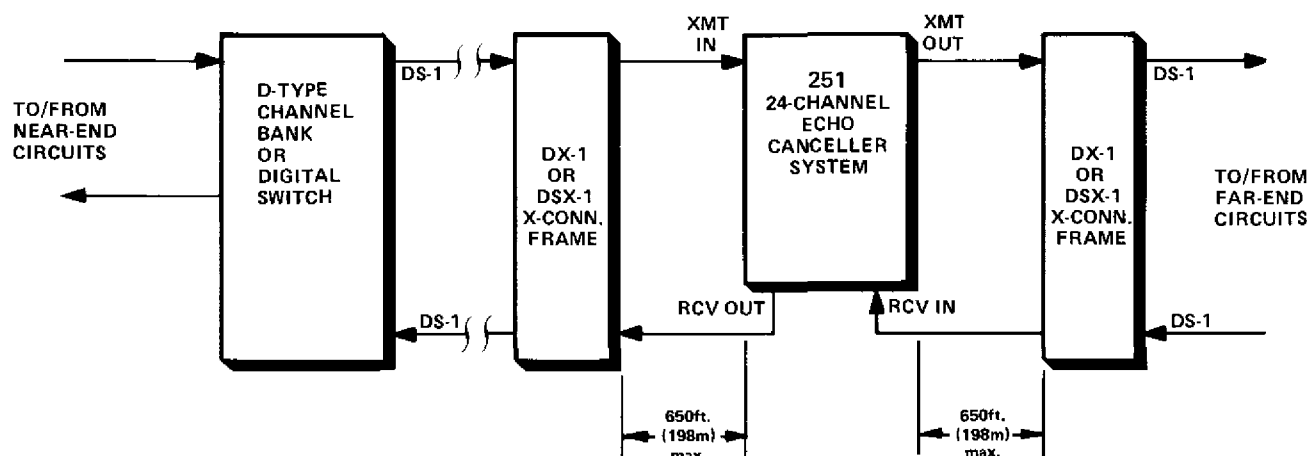

figure 4. Physical connection of 251 System
2.04 The 251 System typically operates in conjunction with a D-type channel bank or a digital toll switch. In such applications, the 251 System is normally located between a DX-1 cross-connect frame on the side toward the far end (i.e., the satellite side) and another DX-1 frame and the associated channel bank or digital switch on the side toward the near end (i.e., the terrestrial side). An arrangement of this type is shown in figure 4. Cabling between a DX-1 cross-connect frame and a D-type channel bank must be